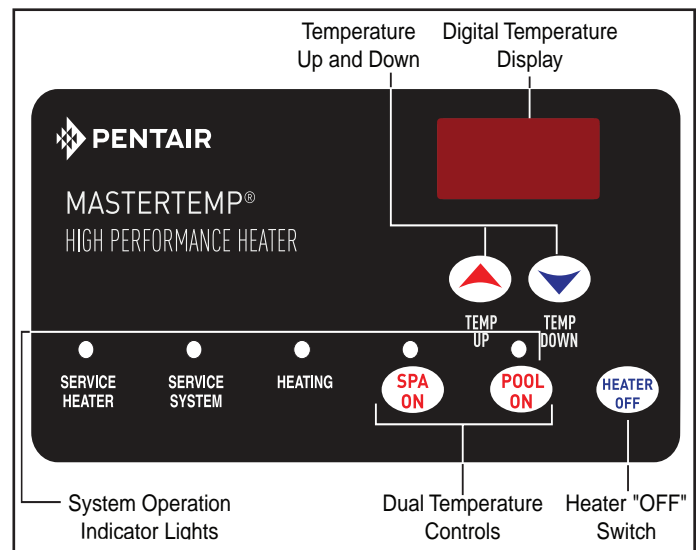

Figure 2.
12. Set the thermostat to desired setting (**NOTICE:** Set point must be above actual water temperature or burner will not fire). See “OPERATING the CONTROL PANEL” (see Figure 2 and page ix).